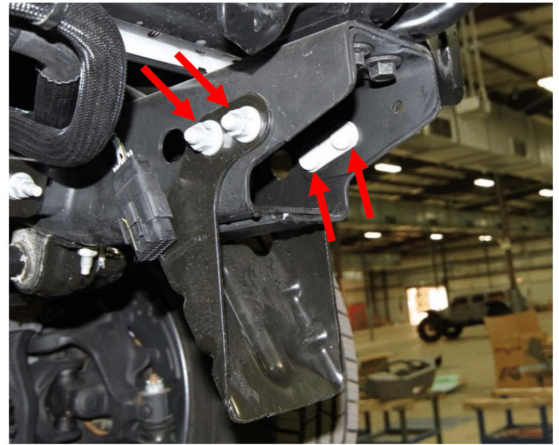

Figure 10.
10. Using an 18mm socket wrench, remove the eight (8) nuts attaching the underrun guards to the bottom of each frame rail. Set aside hardware for later use. Figure 10.